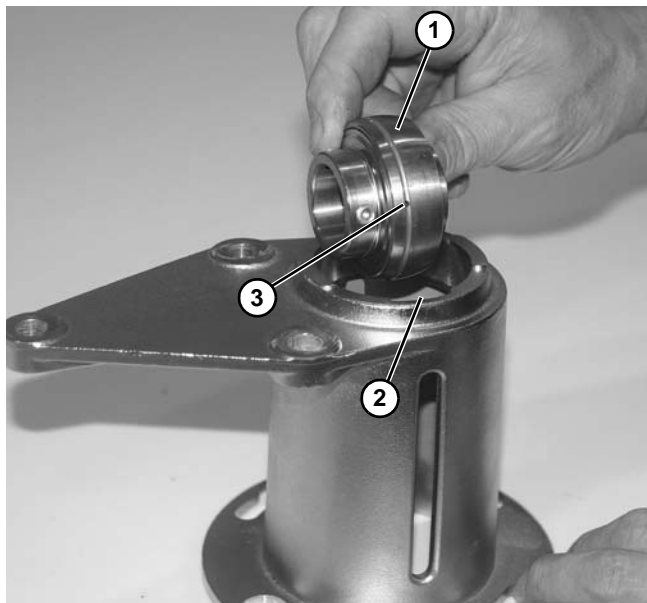

Figure 184
2. Turn bearing (**Figure 184, item 1**) to align with slots (**Figure 184, item 2**) and anti-rotation nub (**Figure 184, item 3**), as shown, in motor mount. Then remove bearing.